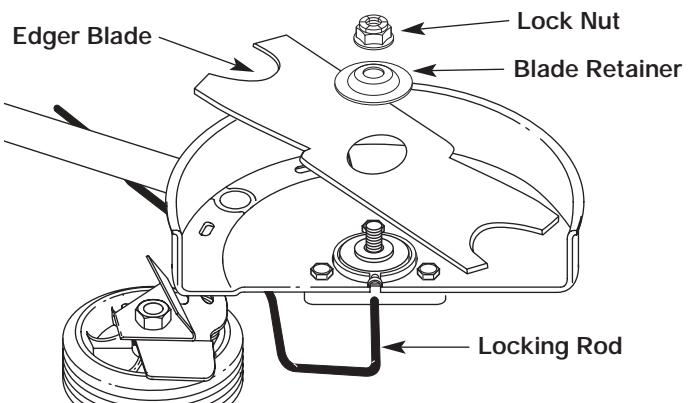
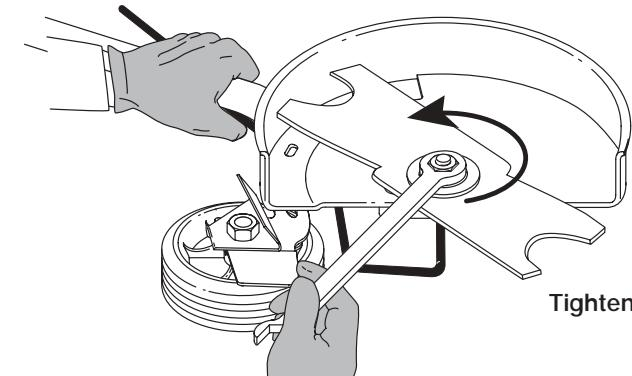

Fig. 10
Fig. 11
4. Install the new blade, blade retainer, and nut (Fig. 10). Insert the locking rod through the slot into the output shaft hole. Make sure that the blade stays flat and centered against the output shaft while tightening the lock nut **countrerclockwise** (Fig. 11).
- If you do not have a torque wrench, hold the locking rod in the slot. Rotate the nut **countrerclockwise** with a 5/8 inch closed-ended or socket wrench, until the nut presses against the washer and the blade is snug. Make sure the blade assembly is installed correctly, then rotate the nut an additional **1/4-1/2 turn** (Fig. 11).